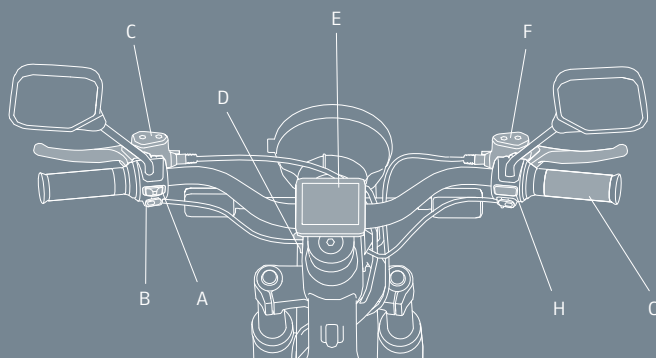

Fig. 25
1. Push and hold the start button (H) in Fig. 25. => The key card symbol is shown.